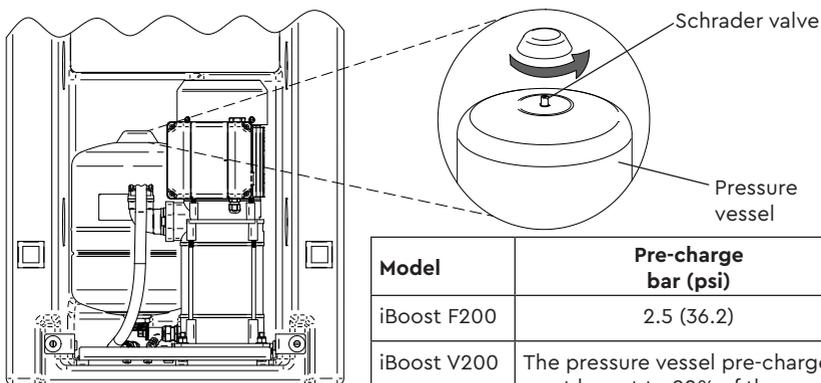

Fig. 17
- Check pre-charge at Schrader valve (Fig. 17) using a tyre pressure gauge.
- Replenish pre-charge by injecting air into the vessel via the Schrader valve using a car or bicycle pump (Fig. 17).